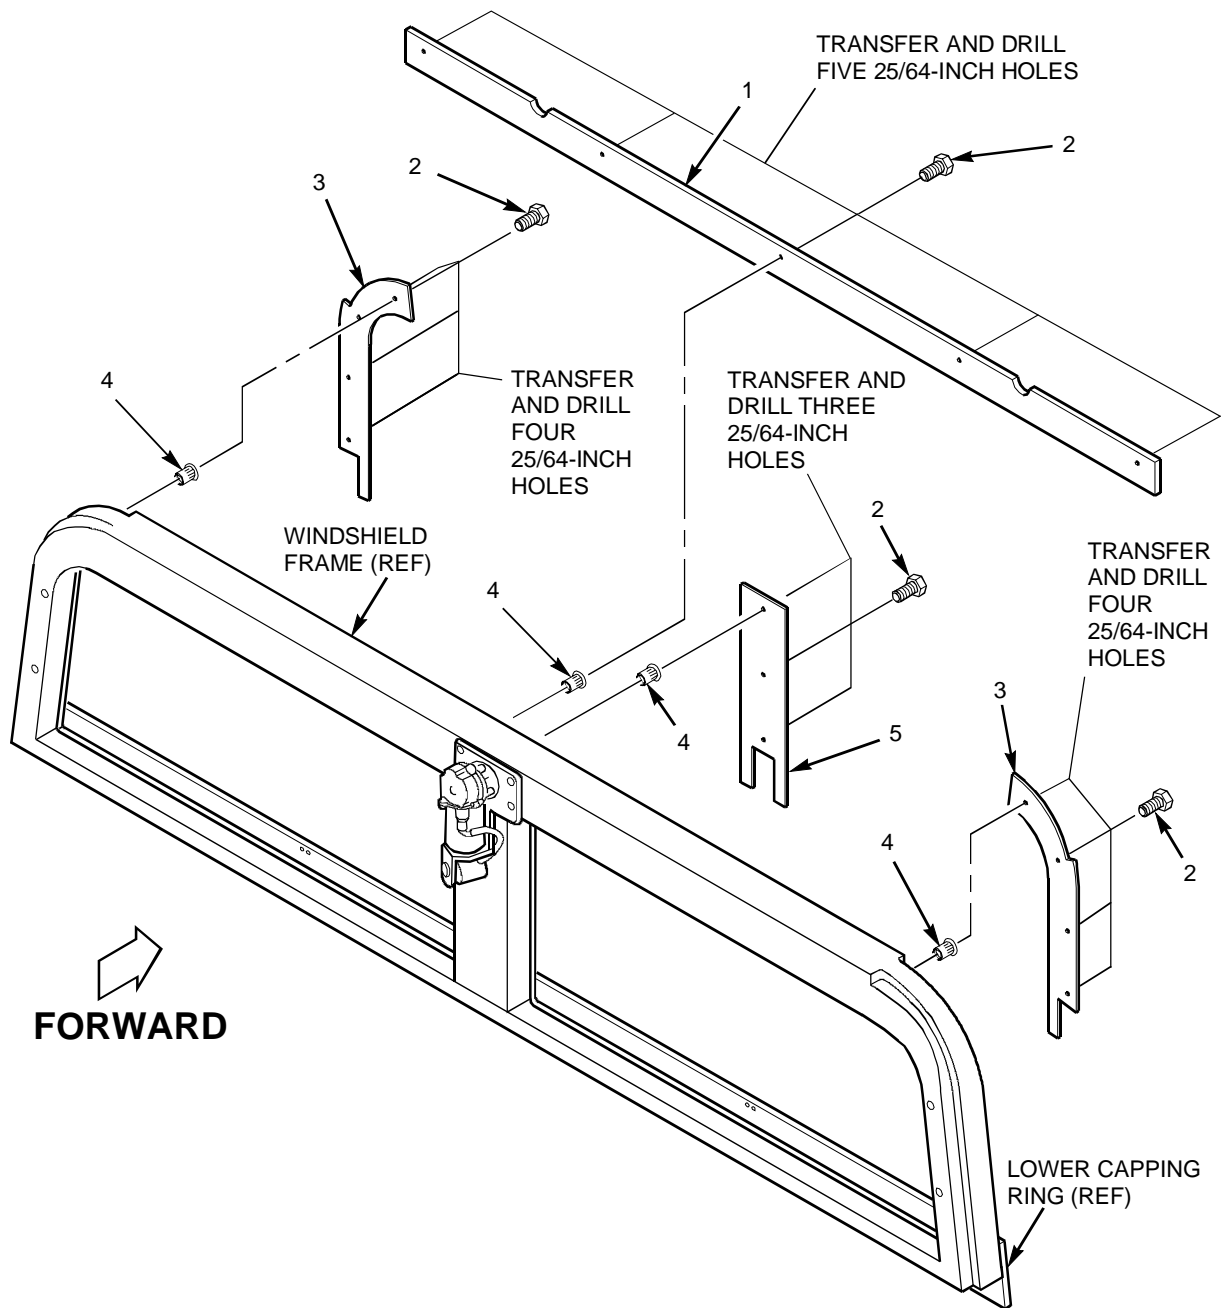

Figure 1-27. Windshield Armor Installation (2 and 4 Door)
- 3) Install windshield armor (see figure 1-27).
- a. Apply Sealing compound to capscrews (2).